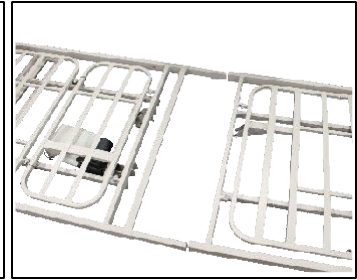
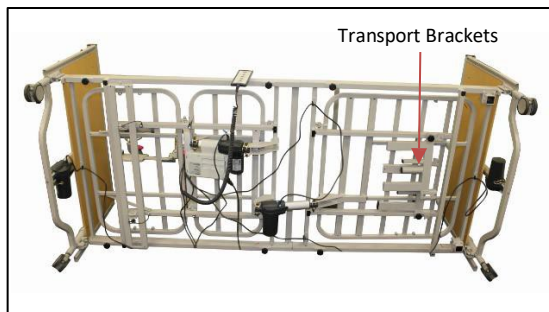

Figure 7: Slide two sections together
Figure 8: Transport bracket fixing
9. Carefully align the two sections of the bed and slide together (*figure 7*). Tighten the turn screw to secure, then carefully place the bed onto its side to connect the controller and attach transport brackets (*figure 8*).
10. The transport brackets can be safely stored under the bed frame to prevent loss of the brackets. This can be done whilst the bed is on its side. The transport brackets can then be attached to the fixing points onto the underside of the bed as indicated (figure 8). Ensure each bracket is locked in place by securing with a turn screw.